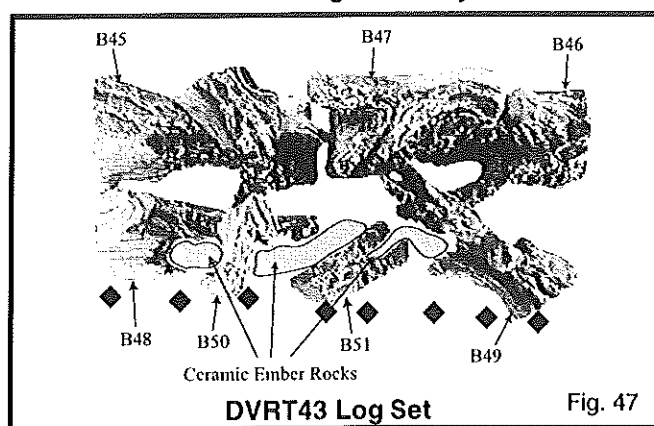

Fig. 47
10. Scatter the Ceramic Ember Rocks (Pt. #57897) over the burner housing assembly in the area forward of the front logs, see shaded areas in Fig. 47.
Refer to Fig. 47